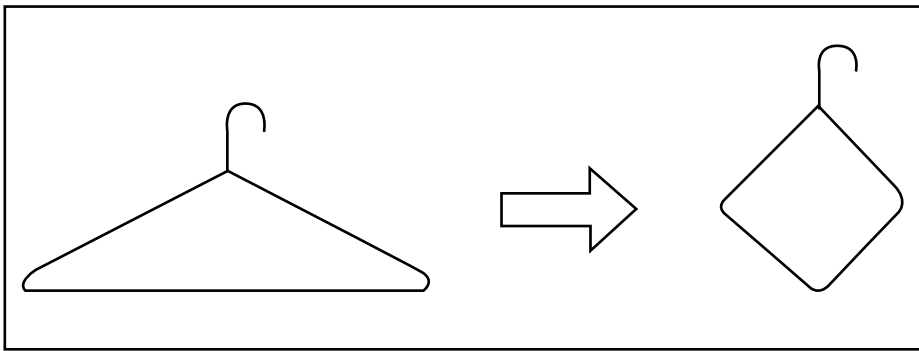

Figure 2.1. Reshaping a coat hanger into a wire quadrat
*A Wire Quadrat.* This is simply a frame that outlines a constant known area when placed on the ground. It is used to obtain an accurate measure of anything found within its perimeter. You will need it to assess the amount of plant cover and variety of animal life. Take a wire coat hanger and open it out to form a square (each side will be approximately 24 cm in length). Leave the hook on so you can hang it in the shed between tests (Figure 2.1).